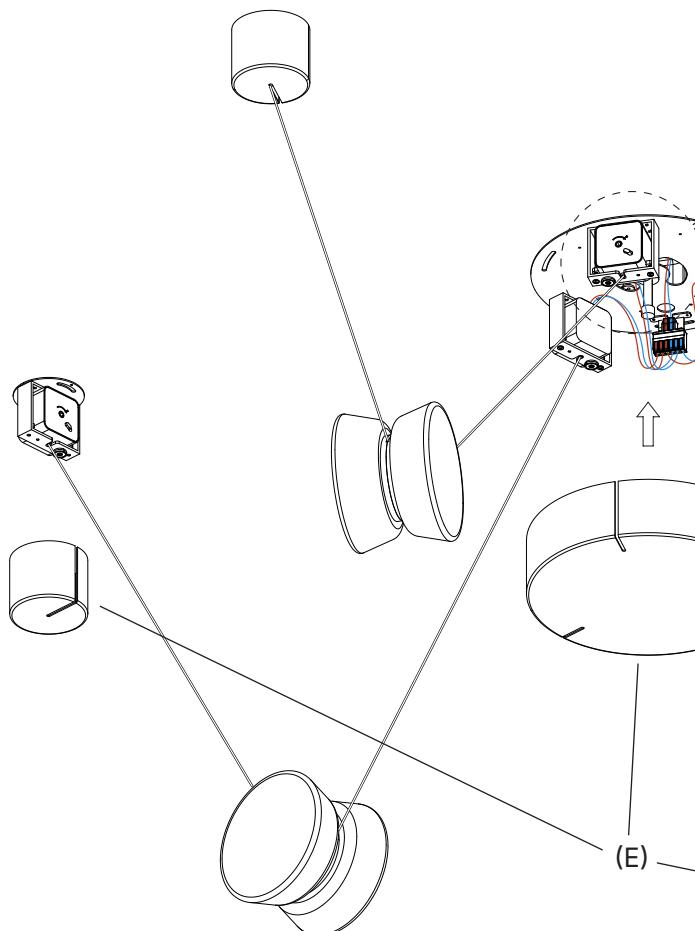

Fig. 7
- The tension of the **Cord Spool (A)** is set in the factory. If cord extends too easily, the tension can be increased by turning the **Adjustment Screw (B)** clockwise with included **Allen Key (C)** (Fig. 7). **CAUTION: Do not over-tighten Adjustment Screw.** If the cord retracts too firmly, decrease the tension by pulling back on the **Tension Lever (D)**.